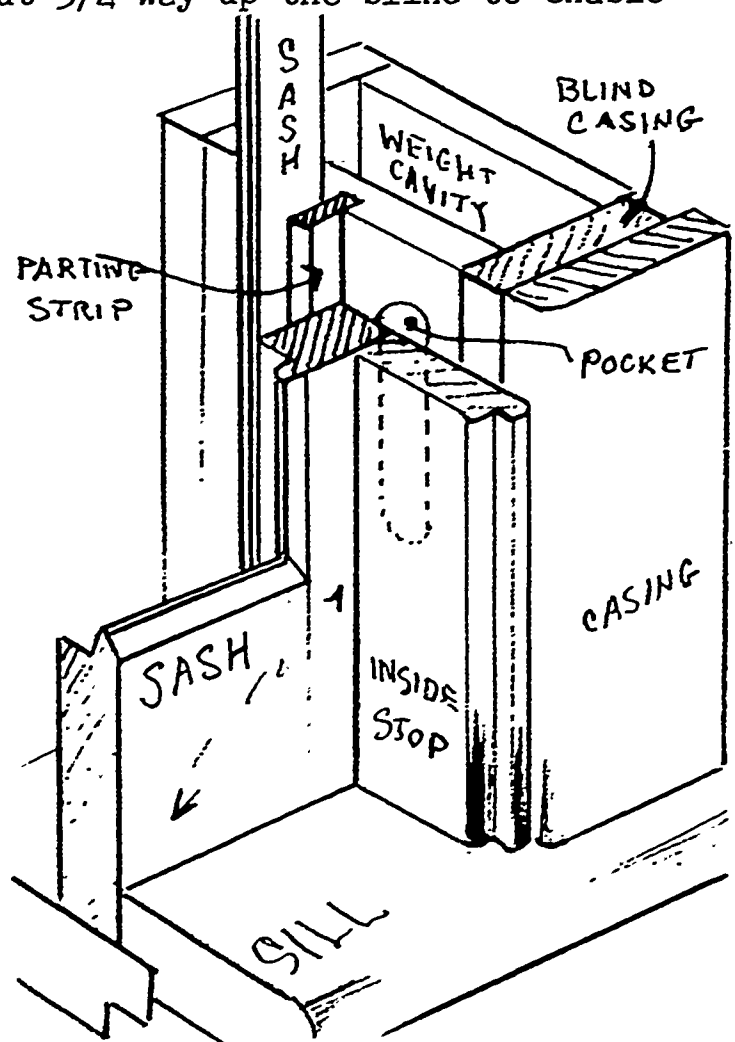

FIG. 249
4. Remove the pocket. (If there is no pocket, the inside trim and blind casing will have to be removed to expose the weights.) See figure 249.